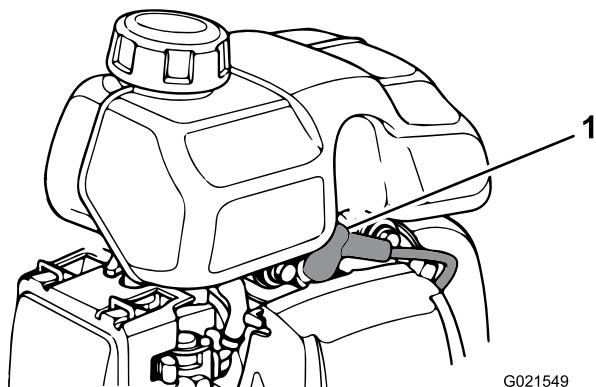

Figure 20
2. Disconnect the spark-plug wire from the spark plug (Figure 20) before performing any maintenance procedure.